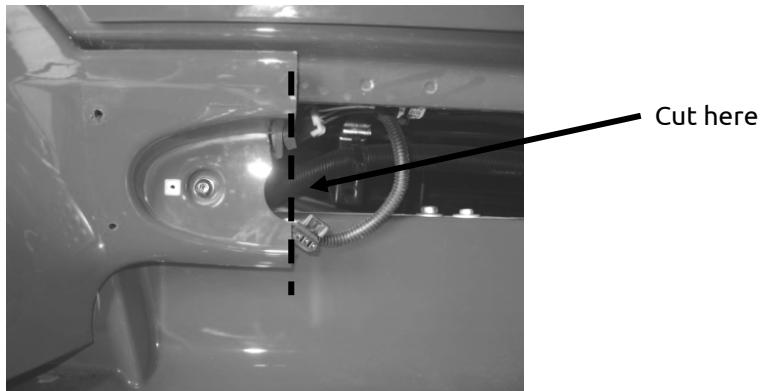

Fig. 2
5. It is necessary to cut away part of the factory panel at the front of the cab. Cut at edge of light hole, as shown. Re-install the front piece of the factory cab skirt and the hood latch hook. (See Fig. 2 on the next page)